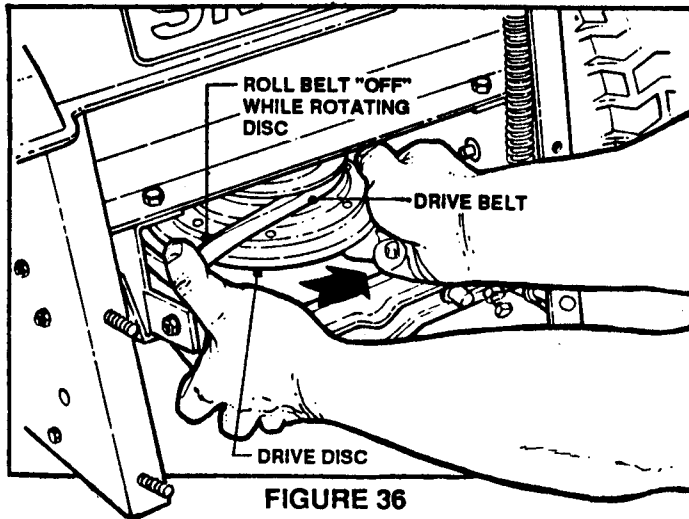

FIGURE 36
- Working at the rear of the mower, rotate the DRIVE DISC while holding down on the DRIVE BELT until belt is clear of disc. See Figure 36.